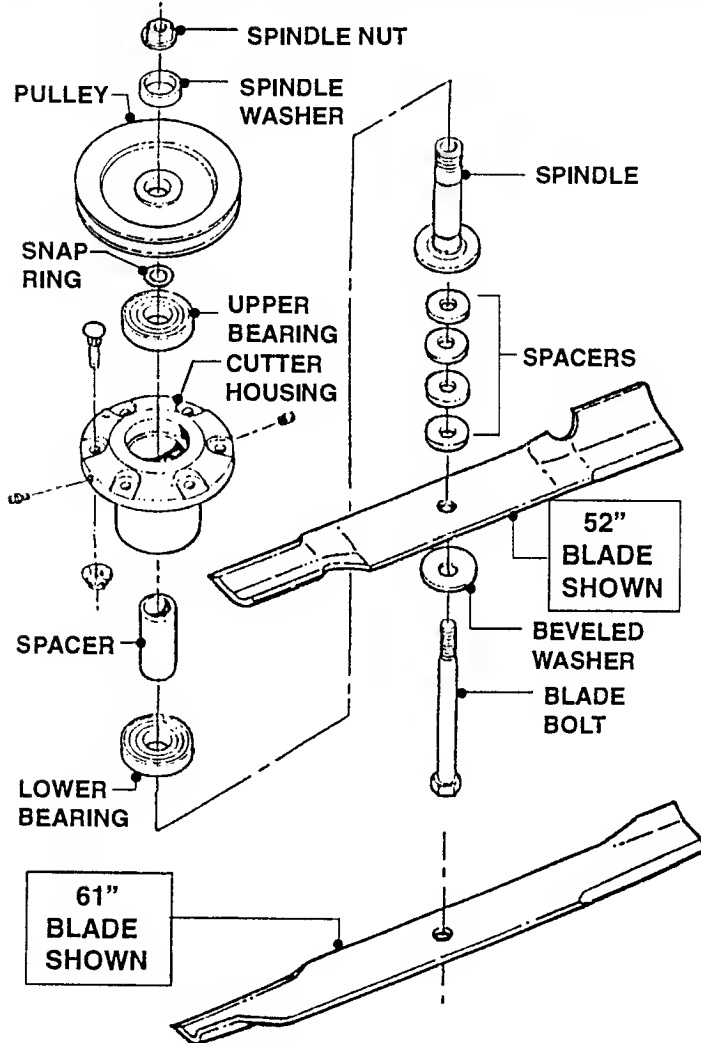

FIGURE 9.5
- B. Remove Spindle Washer. See Figure 9.5 on Pg. 9.4.